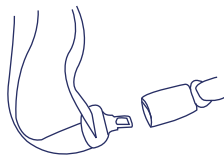

Fig. 45-2
15.2.8) A lap/shoulder combination seat belt with a **buckle that can slide freely** along the seat belt may require the use of a locking clip. Please see figure 45-2.